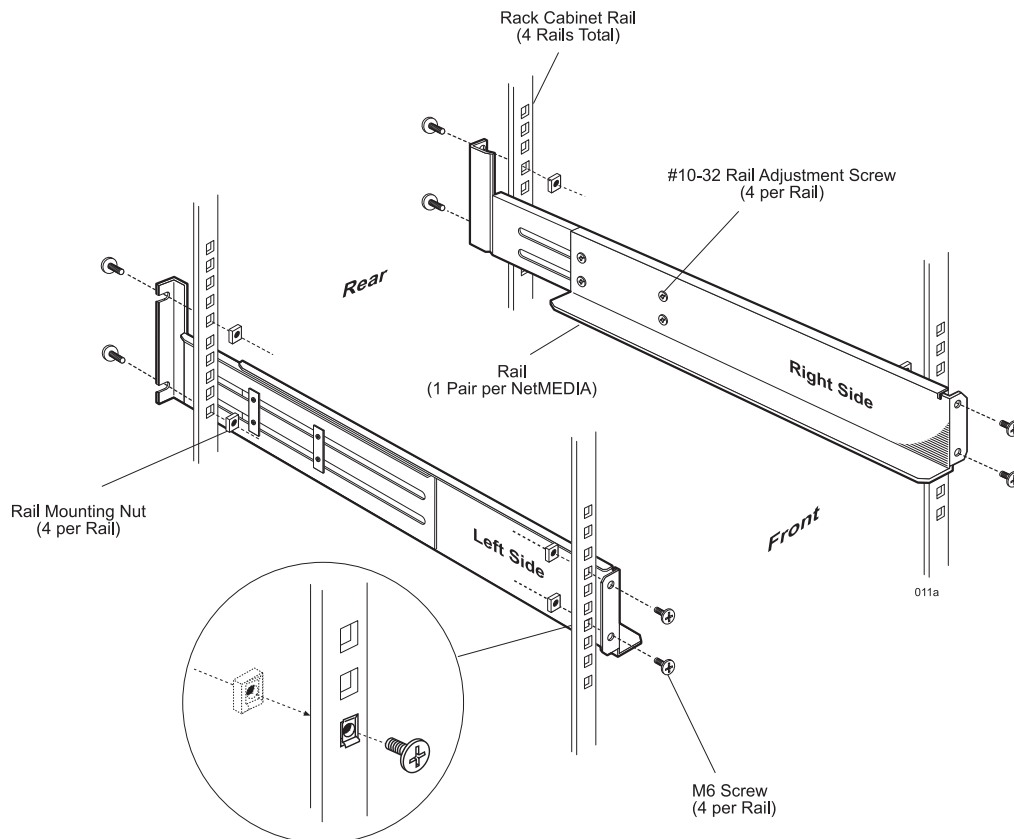

Figure 13: Installing the Rails
2. Loosen the eight (8) rail adjustment screws on both rails and adjust to fit the rack.
3. Make sure both rails are parallel to one another and level in the rack cabinet. Secure the rails to the rack cabinet using the eight (8) M6 screws and eight (8) rack mounting nuts provided (Figure 13).
4. Once both rails are secured in place, tighten the eight (8) rail adjustment screws.